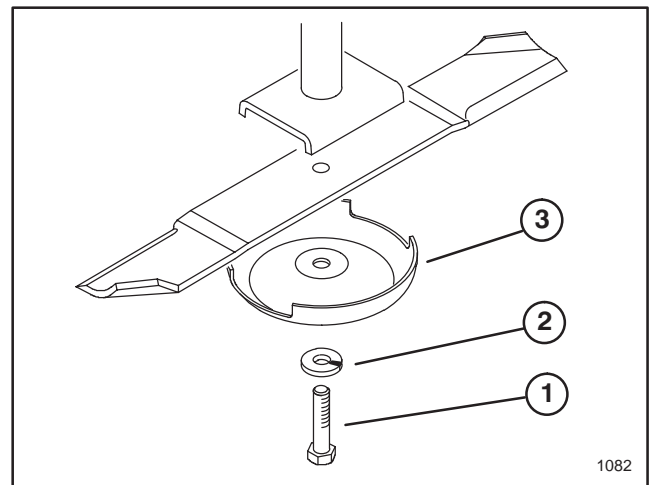

Figure 11
2. Hold the blade end using a rag or thickly padded glove. Remove blade bolt, lock washer, anti-scalp cup and blade from spindle shaft (Fig. 11).
3. Install blade-sail facing toward cutting unit with anti-scalp cup, lock washer and blade bolt (Fig. 11). Torque blade bolt to 85–110 ft. lb.